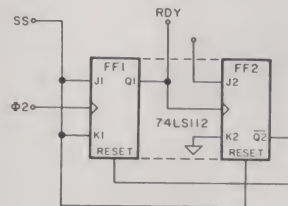

Fig. 1. When SS makes a low-to-high transition, the 6502 will perform one cycle. Phase 2 is from pin 39 of the 6502.
My circuit takes only one chip, assuming you have a debounced single-step (SS) signal available. Look at the circuit in Fig. 1 while following the description below. Assume you start with Q1 and SS low. Then, since J1 and K1 are both low, Q1 will not change. Now let SS go high. When Phase 2 comes along, Q1 goes high. The next time Phase 2 comes along Q1 goes low, clocking FF2.